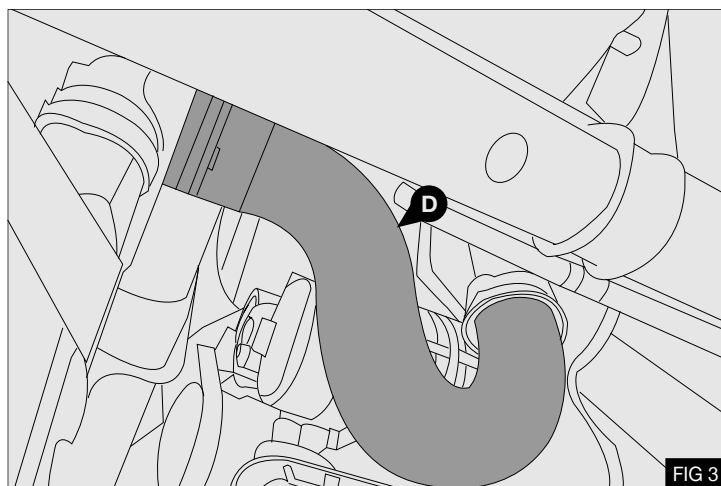

FIG 3
4. Remove and retain the intercooler hose (D) by releasing the two securing clips at either end of the hose - Fig.3
4. Refit the intercooler hose ④ - Fig.3